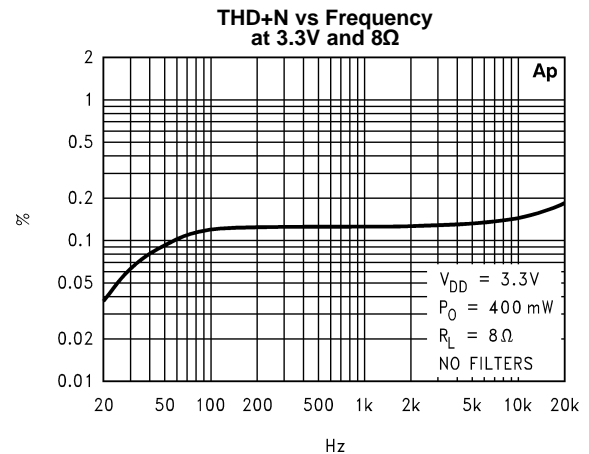

Figure 4.
- (1) All voltages are measured with respect to the ground pin, unless otherwise specified.
- (2) *Absolute Maximum Ratings* indicate limits beyond which damage to the device may occur. *Operating Ratings* indicate conditions for which the device is functional, but do not ensure specific performance limits. *Electrical Characteristics* state DC and AC electrical specifications under particular test conditions which ensure specific performance limits. This assumes that the device is within the Operating Ratings. Specifications are not ensured for parameters where no limit is given, however, the typical value is a good indication of device performance.
- (3) Low Voltage Circuit - See Fig. 4
- (4) Shutdown current is measured in a Normal Room Environment. Exposure to direct sunlight will increase  $I_{SD}$  by a maximum of  $2\mu A$ .
- (5) Typicals are measured at  $25^\circ C$  and represent the parametric norm.
- (6) Limits are ensured to Texas Instruments's AOQL (Average Outgoing Quality Level).
The LM4877 will function at voltages below 3 volts but this mode of operation requires the addition of a 1kΩ resistor from each of the differential output pins ( pins 8 and 4 ) directly to ground. The addition of the pair of 1kΩ resistors ( R4 & R5 ) assures stable operation below 3 Volt VDD operation. The addition of the two resistors will however increase the idle current by as much as 5mA. This is because at 0v input both of the outputs of the LM4877's 2 internal opamps go to 1/2 VDD ( 2.5 volts for a 5v power supply ), causing current to flow through the 1K resistors from output to ground. See fig 4.
Jumper options have been included on the reference design, Fig. 4, to accommodate the low voltage application. J2 & J3 connect R4 and R5 to the outputs.